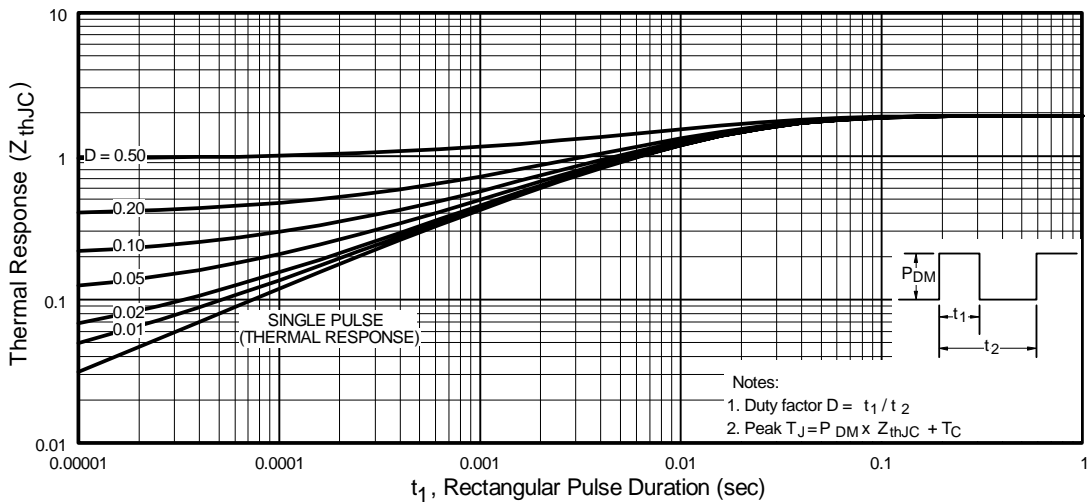

Fig 11. Maximum Effective Transient Thermal Impedance, Junction-to-Case
- ① Repetitive rating; pulse width limited by max. junction temperature. (See fig. 11)
- ② Starting $T_J = 25^\circ\text{C}$, $L = 6.4\text{mH}$